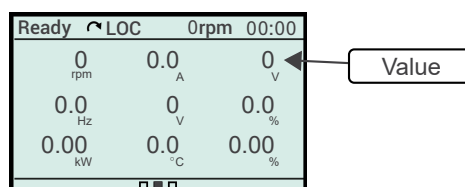

Figure 8.14: Slot View
- **Slot:** The HMI screen is divided into 9 parts, each part is called a Slot which allows the display of reading variables in the **value** format. Figure 8.14 on page 8-6 shows an example display.